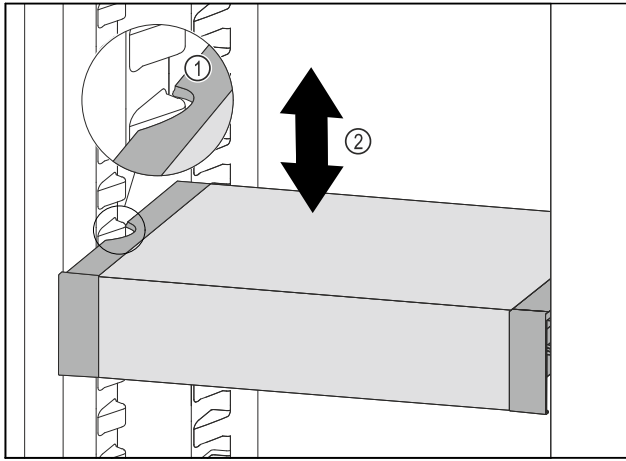

Fig. 130
- Pull VarioSafe forwards until the recesses in the side of the VarioSafe are at the level of the support rib in the refrigerator compartment. *Fig. 130 (1)*
- Move VarioSafe up or down in the refrigerator compartment until the desired height is reached. *Fig. 130 (2)*